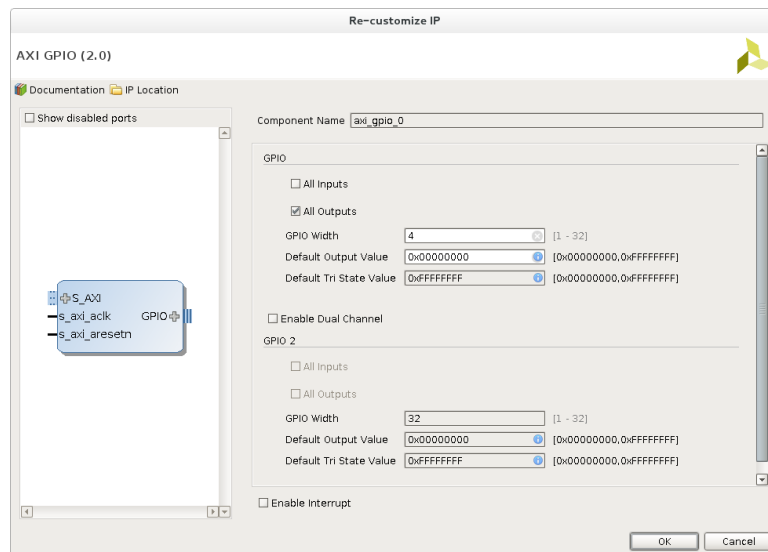

Figure 4: Customize GPIO
- (h) The processor is set up, now we need to add General Purpose IO (GPIO) blocks to interact with LEDs, Switches and Buttons on the ZYBO board. Right click and select 'ADD IP'. Search for 'GPIO' and select 'AXI GPIO' to add it to the design. Double click on the GPIO block named 'axi_gpio_0' and select the 'IP configuration' tab. Set the following configuration for the GPIO and click 'OK' (Figure 4).